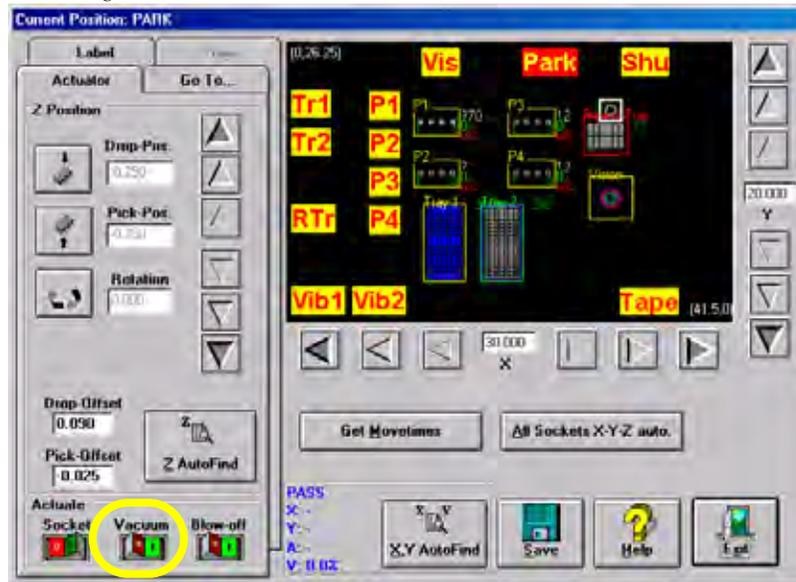

Figure 5-52—Acquire Image icon
- 3c) Using the adjustment buttons for the X-axis and Y-axis, center cross hair 4 on the vacuum pickup cup as well. When correctly adjusted, the vacuum cup, “blemish” and Red Cross hair 4 are all lined up, as shown in *Figure 5-52*.